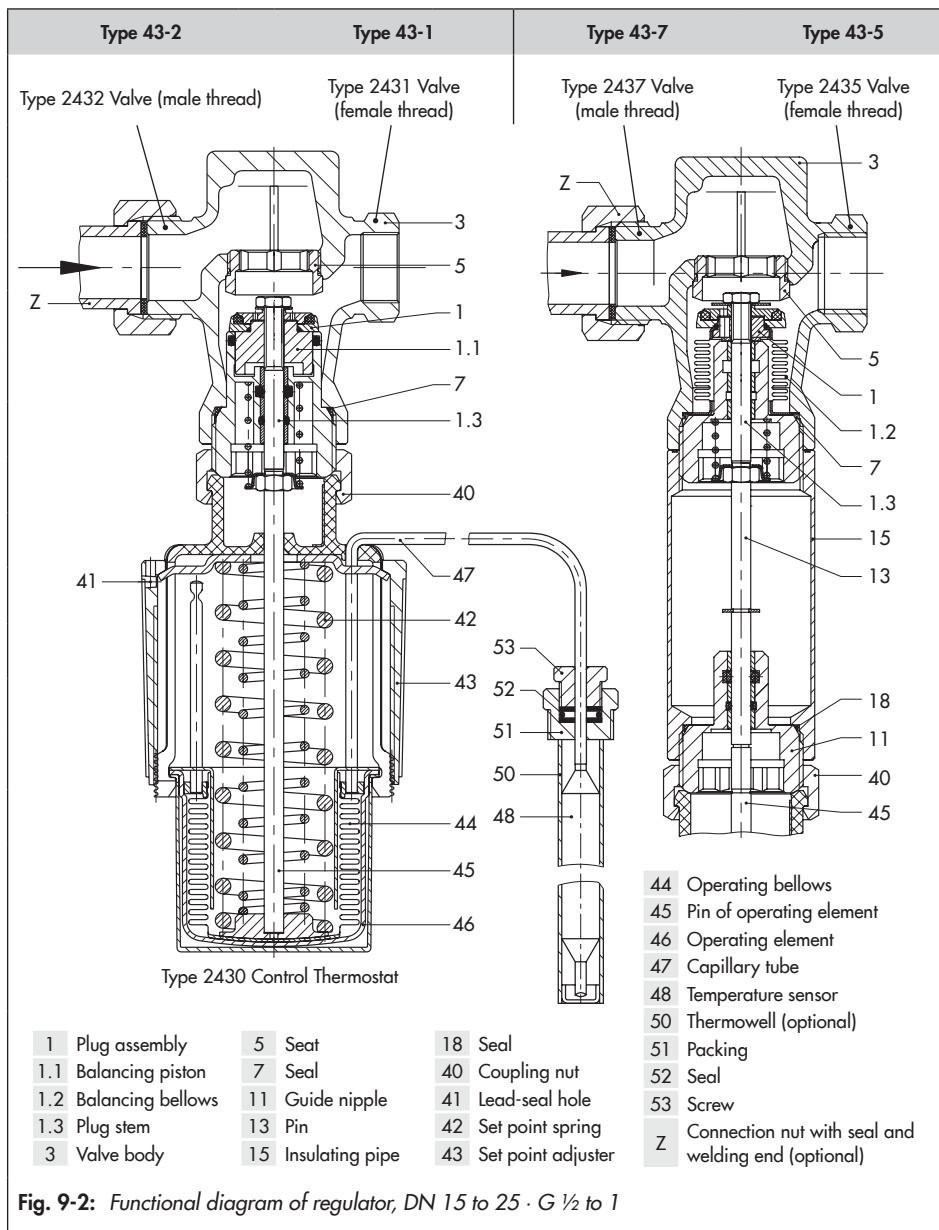

Fig. 9-2: Functional diagram of regulator, DN 15 to 25 · G 1/2 to 1
- See Fig. 9-1 and Fig. 9-2
➔ See Fig. 9-1 and Fig. 9-2